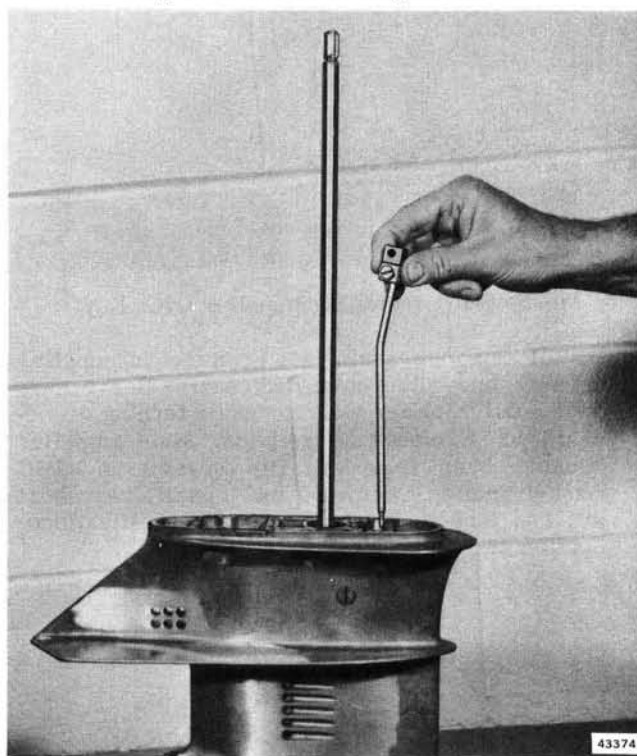

Figure 6-55. Installing Lower Shift Rod and Connector
11. Install driveshaft. Thread shift rod with connector into shifter lever yoke until seated. Then back out just enough so lever faces forward and flat surface on connector faces driveshaft. See Figure 6-55.